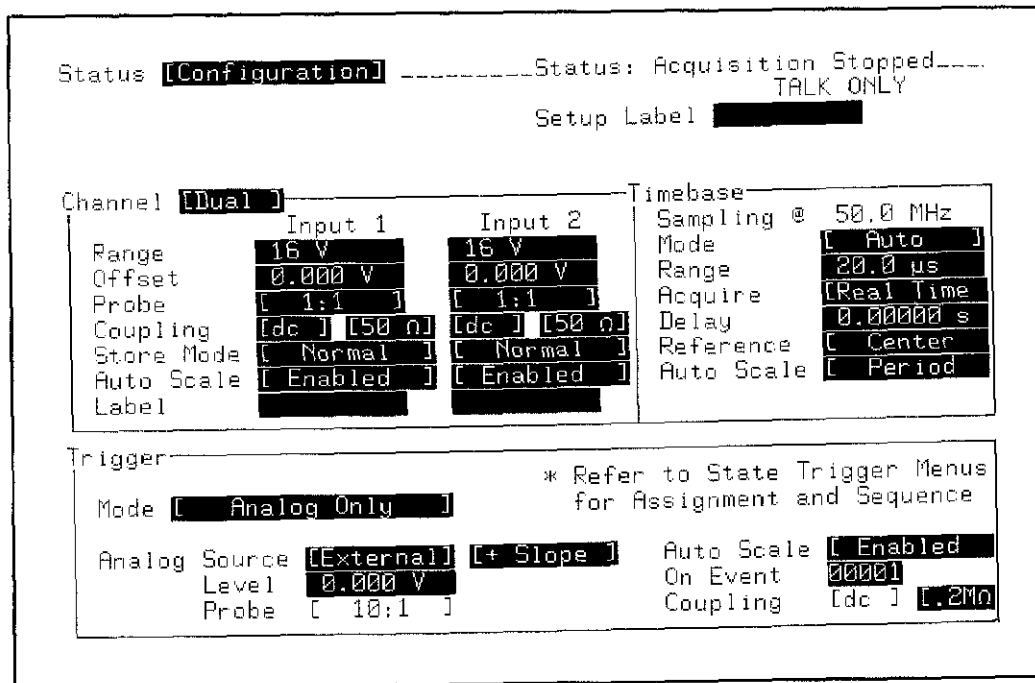

Figure 4-9. HP 54201A/D STATUS Configuration Menu
3. In SYSTEM Calibration menu, select and execute Service Default Gain (7), then execute Service Default Offset & Trigger (8).
4. Configure STATUS Configuration menu as shown in figure 4-9.
6. Connect pulse generator A output to HP 54201A/D INPUT 1 BNC and adjust CH1 COMP (A4C43) (figure 4-9) for maximum square wave flatness using an insulated adjustment tool.
13. Connect pulse generator A output to HP 54201A/D INPUT 2 BNC. Adjust CH2 COMP (A4C4) (figure 4-9) for maximum square wave flatness.